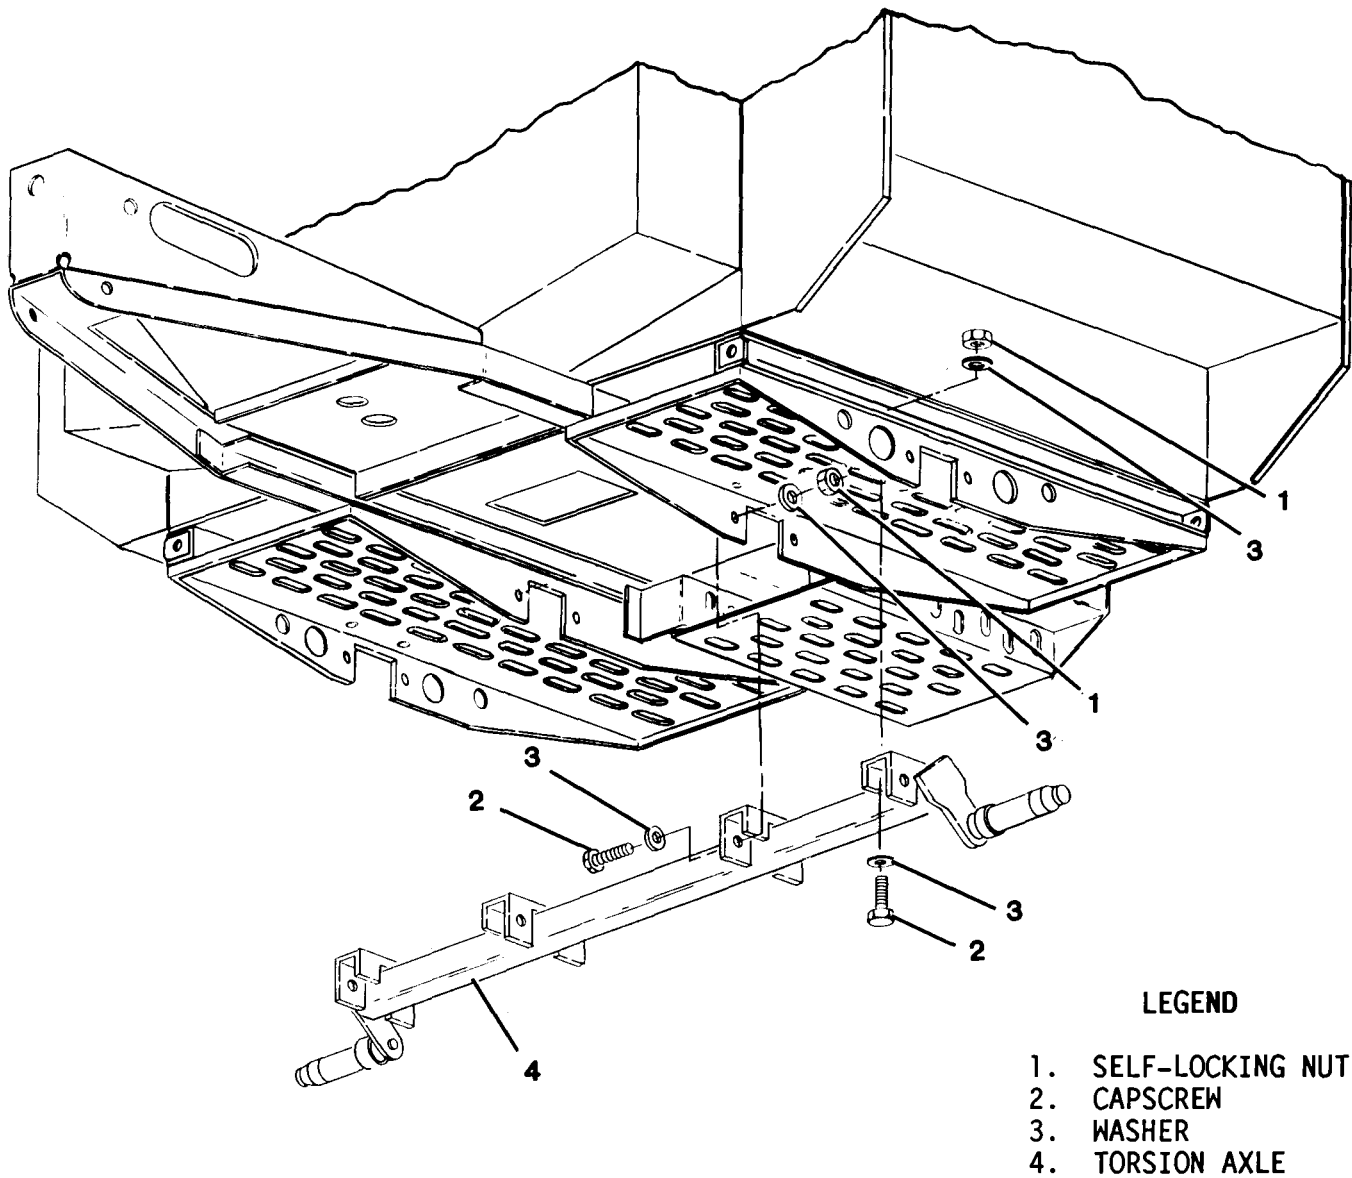

Figure 12-1. Torsion Axle Replacement
(8) Place blocks or other suitable support under torsion axle.
(9) On underside of generator set, remove self-locking nuts (1, figure 12-1), capscrews (2), and washers (3) that secure torsion axle (4) to frame.